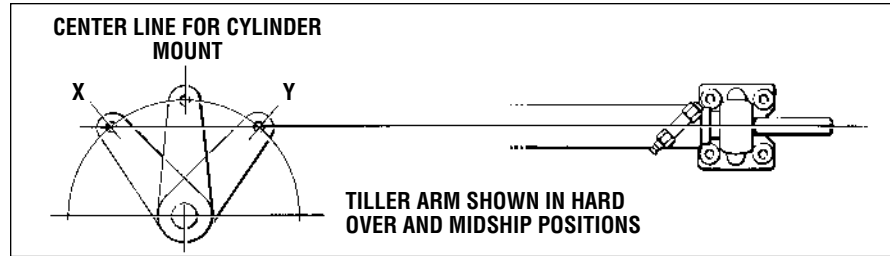

Figure 2.
**b) Tiller arm length is already set:** draw an imaginary line through the tiller arm hole at both hard over positions and align the cylinder with this line, as shown in figure 2. Angles X and Y should be the same at both hard over positions. Alternatively, you can calculate dimension B from the equation below: